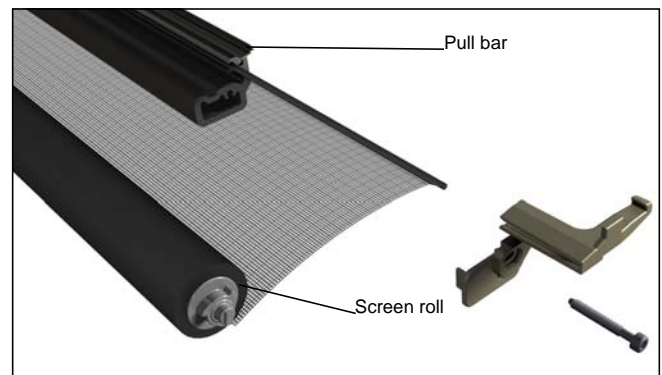

Figure 26
5. Slide mesh out of pull bar and discard. See figure 26.